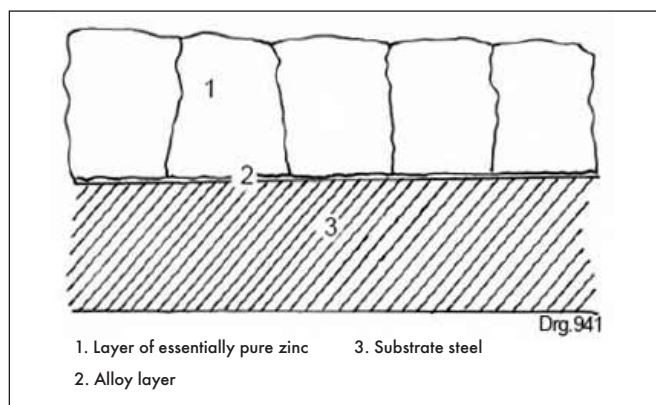

Figure 2: A schematic cross sectional view of an AZ coating of a GI coating.
The coating microstructure of the traditional galvanized coating (GI) consists of (refer to Figure 2):
The GI-product follows a single stage corrosion mechanism (refer to Figure 2):